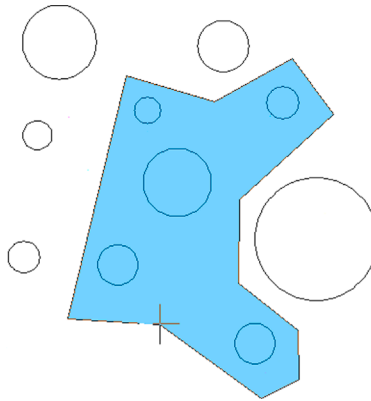

FIGURE 15.44 Window polygon.
Step 1. Draw a set of circles, as seen in Fig. 15.44.
Notice the difference here between the standard Window selection tool (strictly rectangular in nature) and the flexible “any shape you want it” Window polygon (Fig. 15.44). Its action, of course, is similar; everything it encloses is selected.